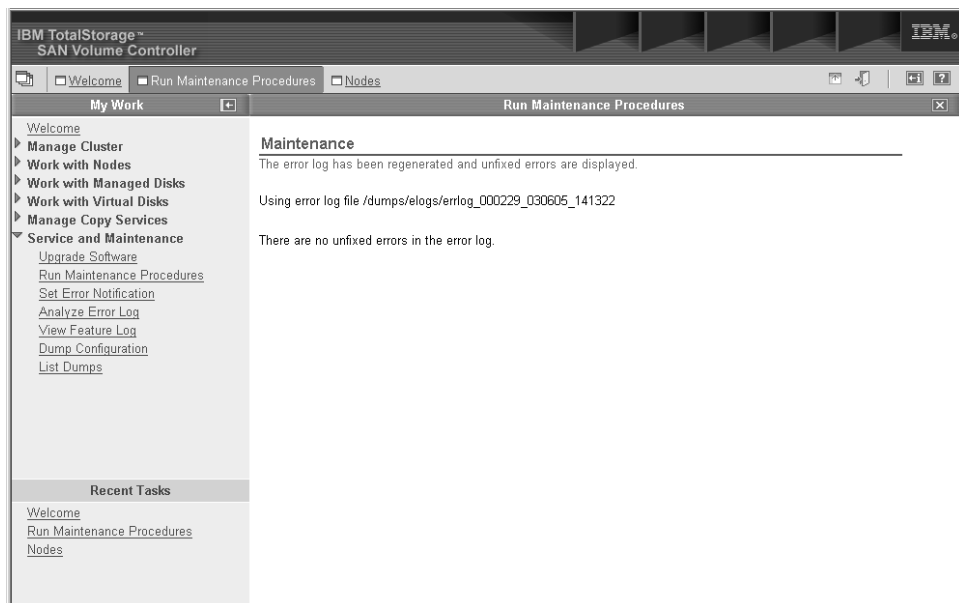

Figure 55. Example of what is displayed when you see no errors
- Click Exit. If other errors need to be fixed, these errors are displayed now and the directed maintenance procedures will continue. If no errors remain, you will see what is displayed in Figure 55.